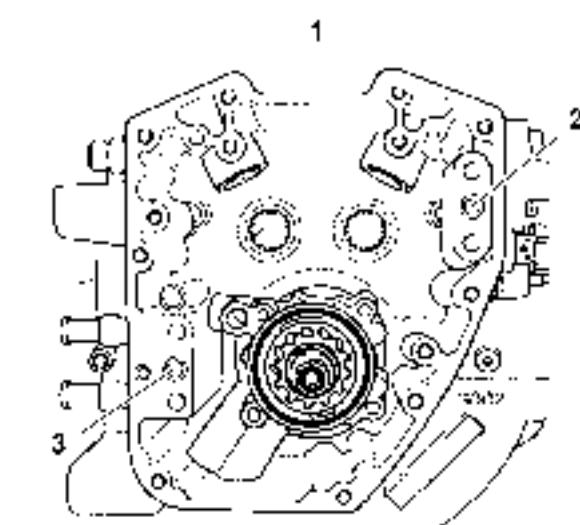

Figure 3-57. Ring Dowels
- 13 See Figure 3-57. Two ring dowels (2, 3) in crankcase flange locate cam support plate.